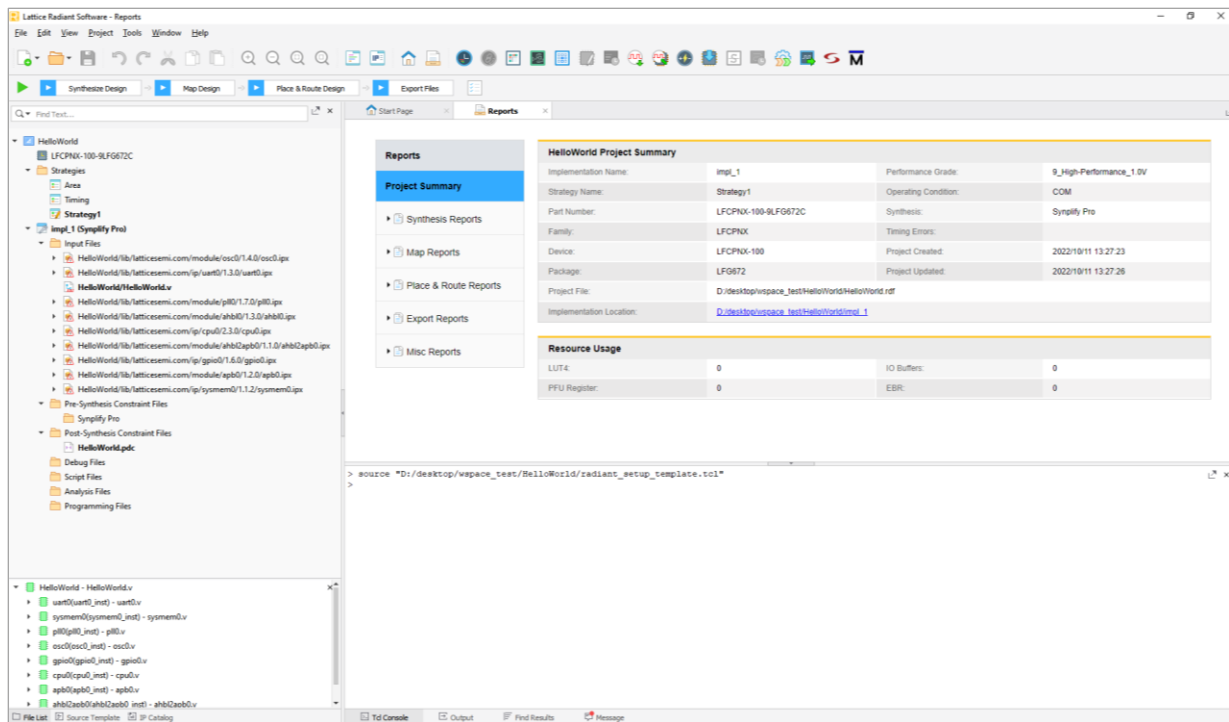

Figure 2.119. Radiant Project
2. Lattice Radiant is launched with a Radiant project generated for SoC at the background (Figure 2.119).